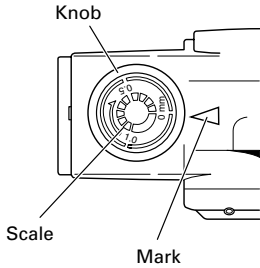

Fig. 1
- (1) Turn the knob in the direction indicated by the arrow in Fig. 1 (clockwise), until the triangular mark is aligned with the desired cutting depth on the scale. The scale unit is graduated in millimeters.
- (2) The cutting depth can be adjusted within a range of 0-1mm.